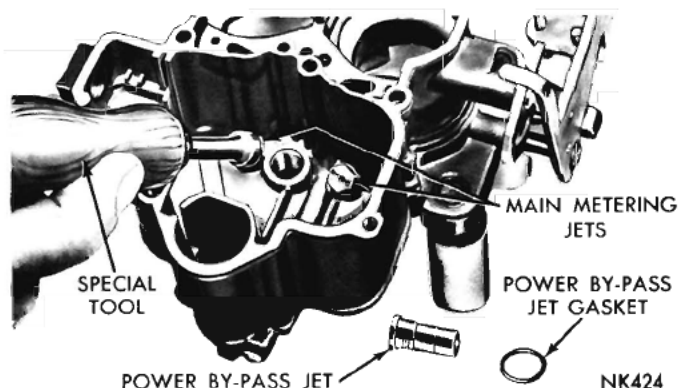

Fig. 8—Removing or Installing the Main Metering Jets
(1) Place a new gasket on the throttle body, then install main body. Install two short screws to secure.
(2) Install the main metering jets in the main body. Tighten securely, using Tool T109-173. Refer to (Fig. 8).